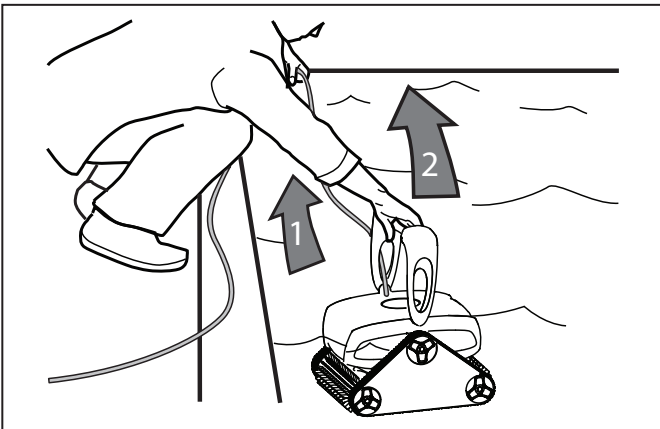

Figure 14. Lift Cleaner From Pool with Handle
2. When the cleaner is within arm's reach, pull gently on the floating cable to bring the cleaner handle within arm's reach. Use the handle to lift the cleaner from the water (see Figure 14). Never lift the cleaner out of the pool by the floating cable.